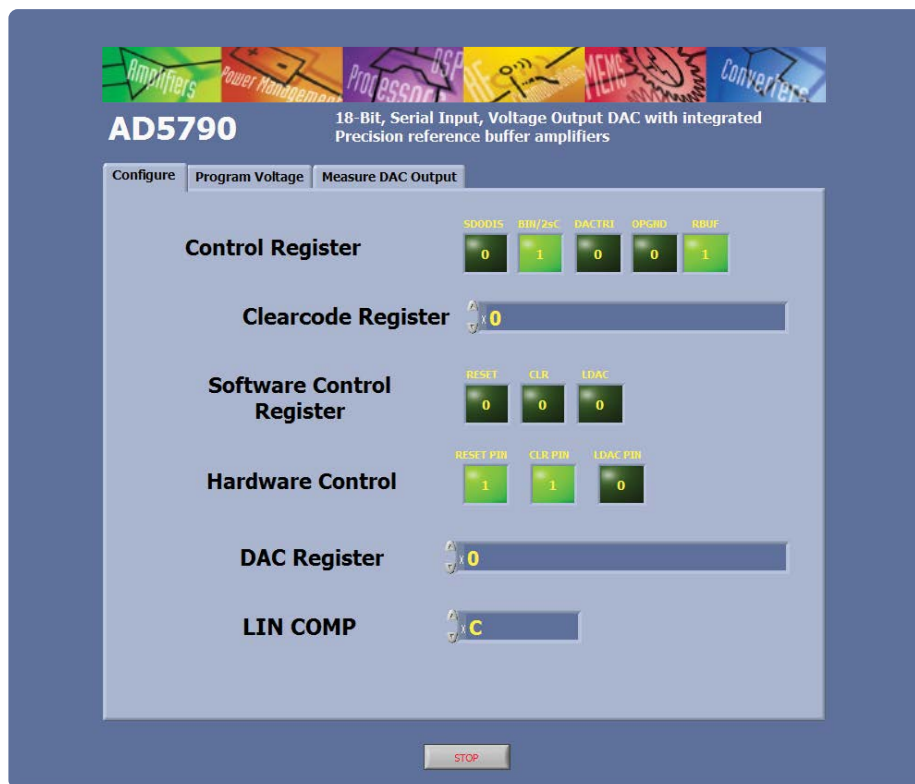

Figure 4. Main Window
1. From the **Start** menu, select **Analog Devices, AD5790**, then **AD5790 Evaluation Software**. The main window of the software then opens (see Figure 4).